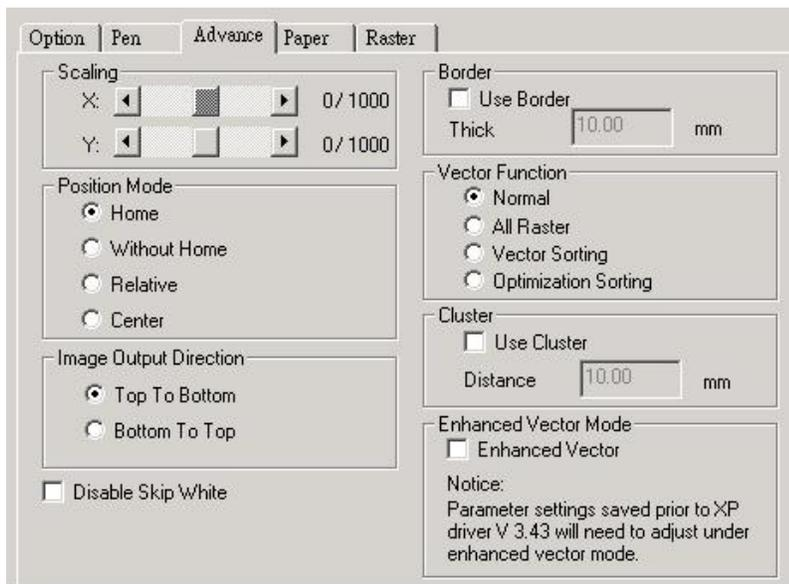

Fig. 6-20 Advance Setting
**Save Parameters Setting**-- Each job may require unique Explorer II driver settings. After you have adjusted all of the settings, remember to save it in a desired location for future use (see Fig. 6-20 to save parameters setting). Press the SAVE icon of Fig. 6-20 and save the parameter settings to the proper directory as wished or default for all applications, then you can see the saved files shown in the History Files column. You can access your saved settings by clicking on Load or by using the History scroll, which keeps track of the settings most recently used.